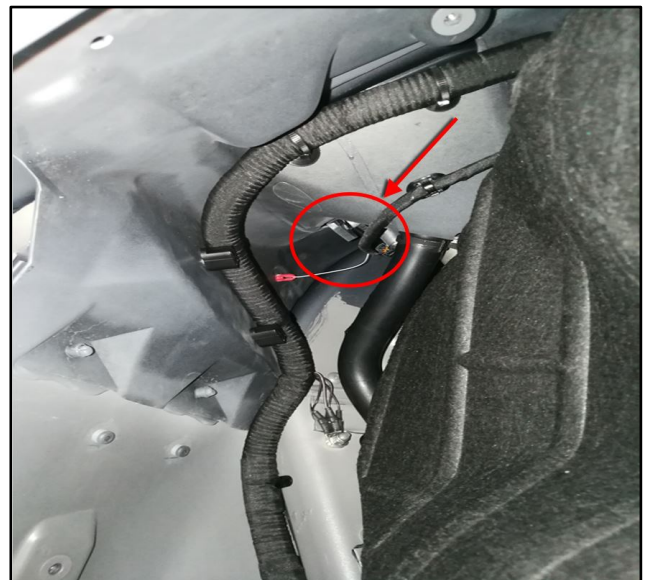

**Figure 1**
1. **Note:** *The fuel filler latch is shown by the arrow in Figure 1.*